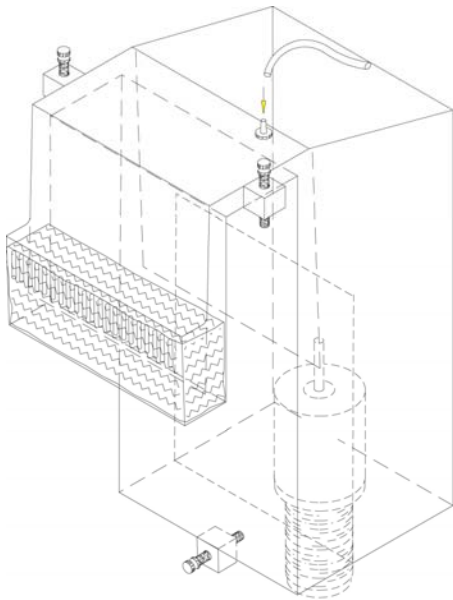

Fig. 1
6. Adjust the height of the unit with the two top adjustment screws so the water level is about $\frac{1}{4}$ " above the edge of the front chamber.(FIG 1) Make sure that the overflow is level with the water surface, not necessarily the tank, as some tanks may not be perfectly level.